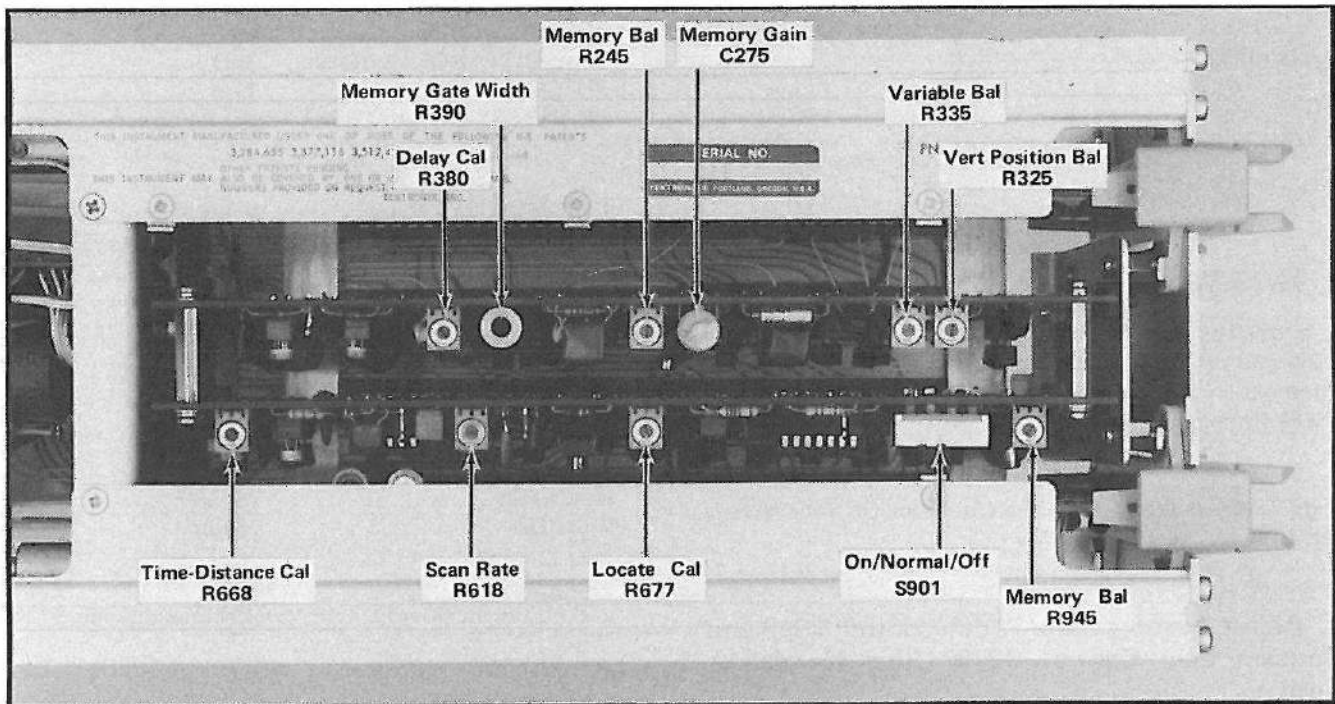
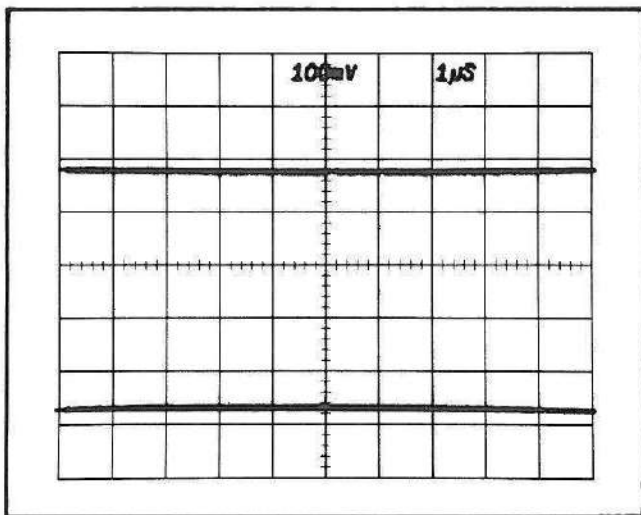
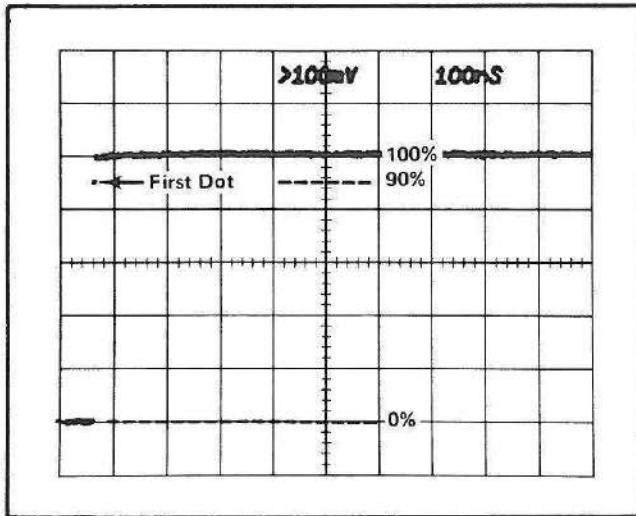
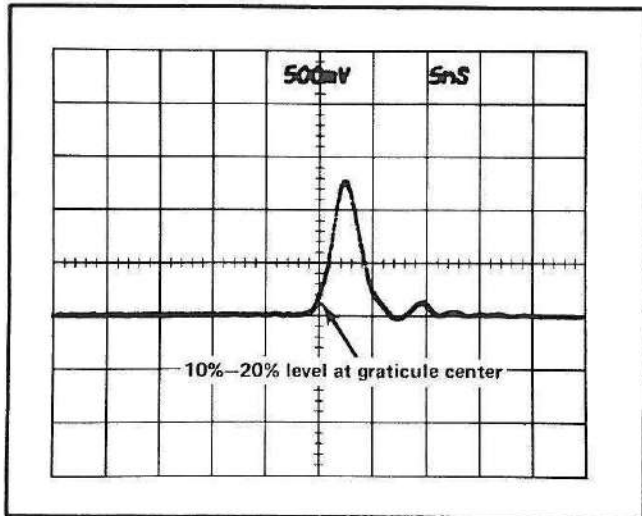

Fig. 5-11. Control locations on the Vertical and Horizontal cards.
Fig. 5-12. Waveform for Memory Gate Width control R390 adjustment using a Normalizer Head.
Fig. 5-13. Waveform for Memory Gate Width control R390 and Memory Gain control C275 adjustments using a Sampling Head.
Fig. 5-14. Delay Calibrate control R380 adjustment waveform.
g. ADJUST the Memory Gate Width control R390 to obtain maximum separation of the two traces. See Fig. 5-11 for the control location and Fig. 5-12 for a typical waveform.
k. ADJUST the Memory Gain control C275 to obtain 1 V (5 div) separation of the two traces. See Fig. 5-11 for the control location.
h. ADJUST the Memory Gate Width control R390 to raise the first dot above the step 0% level to its MAXIMUM amplitude. It may overshoot the 100% level. See Fig. 5-11 for the control location and Fig. 5-13 for a similar waveform.
the 0% level). See Fig. 5-11 for the control location and Fig. 5-13 for the waveform.
g. ADJUST the Memory Balance control R245 to set the VERT SIG OUT at 0 V. See Fig. 5-11 for the control location.
graticule line 0). See Fig. 5-11 for the control location and Fig. 5-14 for the waveform.